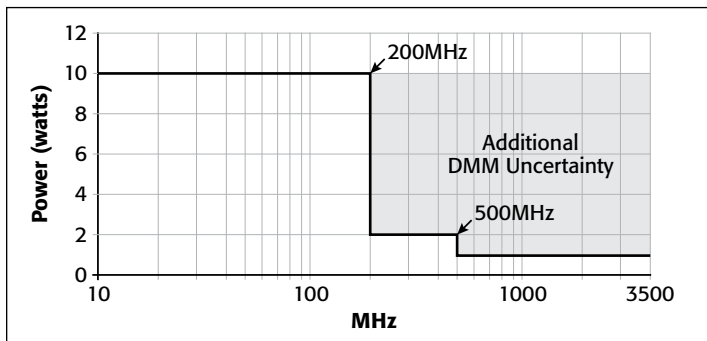

Figure 2. Carry power per channel vs. frequency for the Model 7711 switch module.
- In some applications, the power handling capabilities of the Model 7711 should be considered. The maximum amount of power that can be routed while maintaining proper DMM accuracy is shown in Figure 2. Power levels of up to 10 watts can be used, but this may cause measurement errors. For instance, routing 10 watts of power at 1GHz may cause